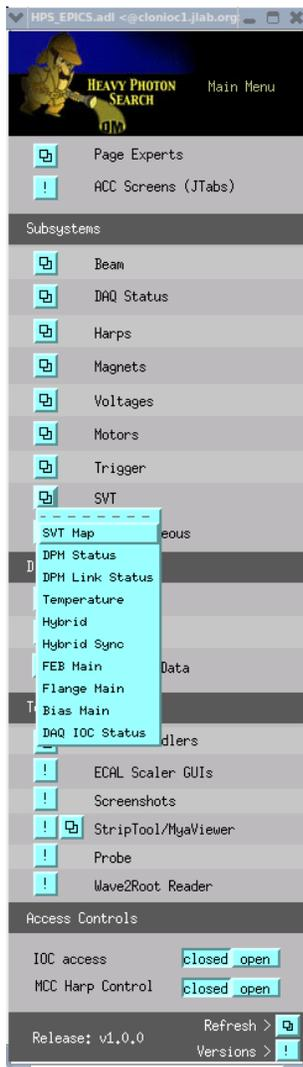

Figure 2.1: HPS EPICS main GUI.
2. Open a terminal and issue `hps_epics dev` command to open the main HPS GUI. Figure 2.1 show the SVT part of the GUI open.